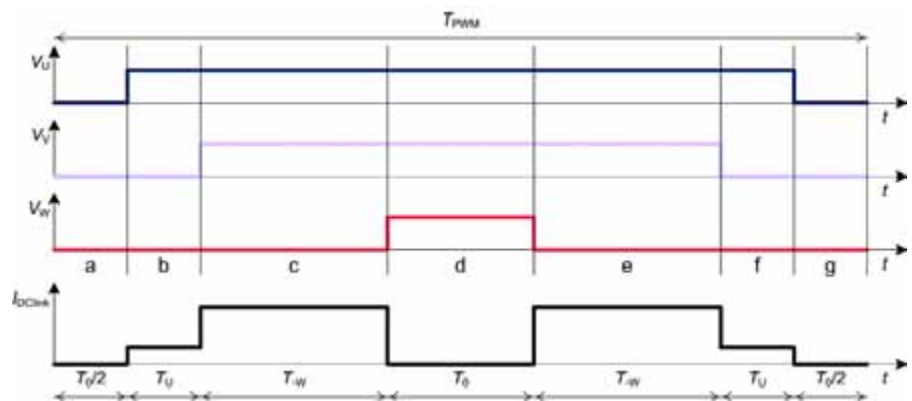
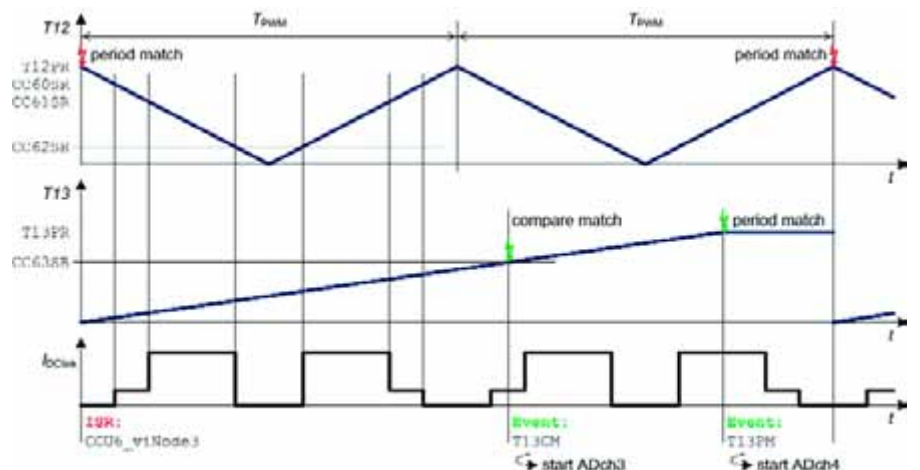

Figure 1: Space Vector Pulse Width Modulation: Three-phase inverter output signal and DC-link current  $I_{DcLink}$
Figure 3: Timing diagram of Space Vector Pulse Width Modulation and AD-Converter
Figure 1 gives an example. The first active state (b&f) is  $T_U$ , the second active state (c&e) is  $T_W$ , the inactive state is  $T_0$  which appears twice, first as (000) vector (a&f), second as (111) vector (d).
The XC886/888C(L)M microcontrollers implement the above requirement using an event based hardware trigger from the PWM unit CapCom6E towards the AD-converter. The green lightning symbols in the second PWM period in Figure 3 represent the hardware events which directly trigger the AD-converter sampling. The event based trigger eliminates any interrupt latency and enables fast and accurate current measurement. After sampling of the signal, the conversion phase does not require a valid signal at the input, because the sampled voltage is stored internally. After conversion the result is stored in one of four result registers. Two result registers are used to hold the appropriate DC-link current values  $I_{DClink}$ . The ADC sample time is as low as 250ns. As the current is measured in time slot (b) and (e) of Figure 1, there is always enough time for conversion available.